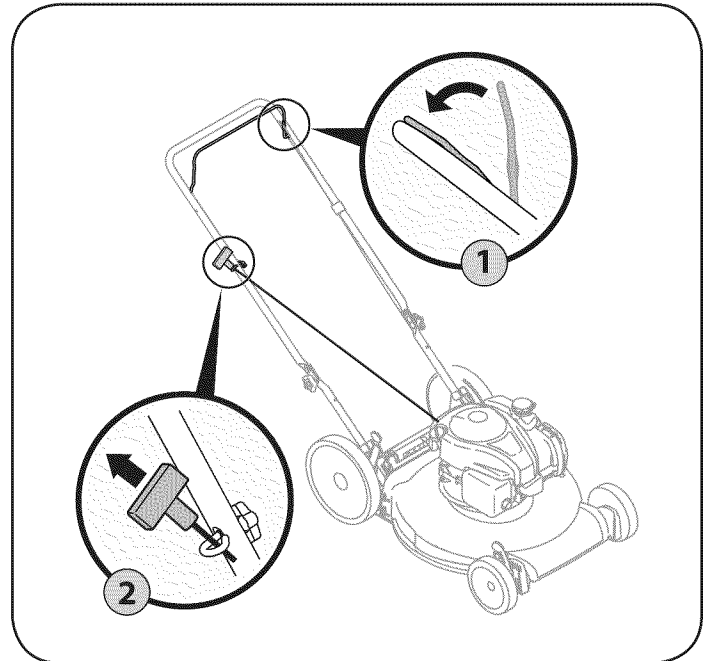

Figure 13
1. Standing behind the mower, squeeze the blade control handle against upper handle. See Figure 13.
2. Holding these two handles together firmly, grasp recoil starter handle and pull rope slowly until resistance is felt, then pull with a rapid, continuous, full arm stroke. See Figure 13. Keeping a firm grip on the starter cord handle, let the rope rewind slowly. Repeat until engine cranks. Let the rope rewind each time slowly.